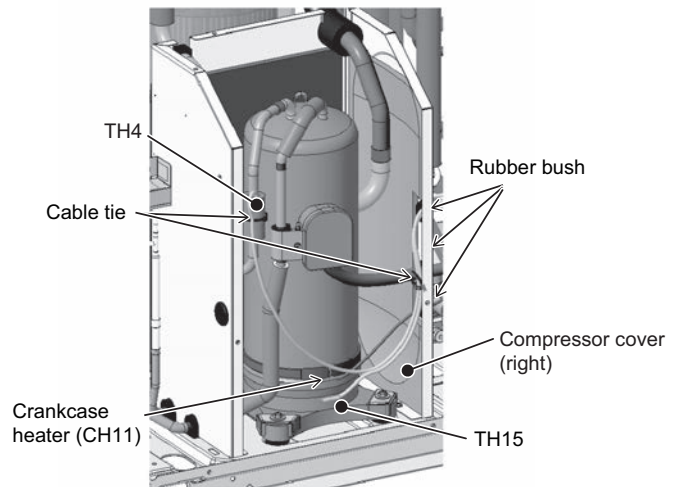

Figure 3
- (3) Cut the tie bands holding TH4 and TH15, and remove the wires through the rubber bushes on the right compressor cover for TH4, TH15 and the crankcase heater (CH11). (2 tie bands, Figure 3.)
- (4) Remove the right compressor cover. (1 screw, Figure 3)